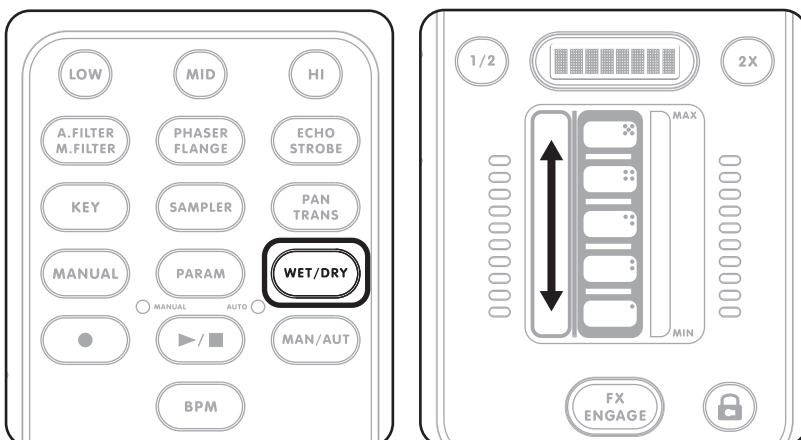

Figure 4.19
3. Now, press the WET/DRY button and move the value down to around 50% using the FXGlide™ Slider Strip (Figure 4.19) You will hear the sound return to a more normal state, and the effect will be present only in the selected frequency range.